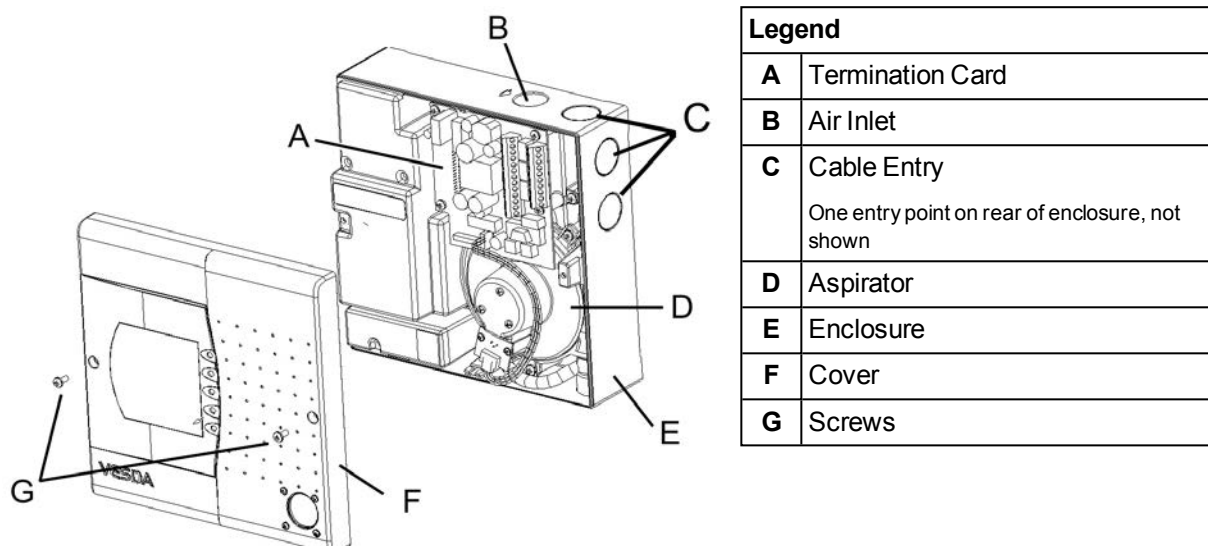

Figure 6-2: VESDA VLC with Front Cover removed. (Normal Orientation)
- Determine the cable entry holes to be used. Refer to Figure 6-2.